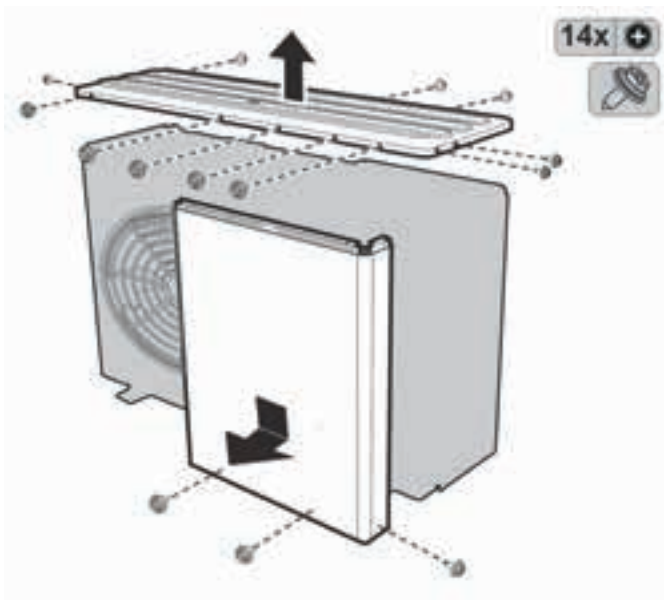
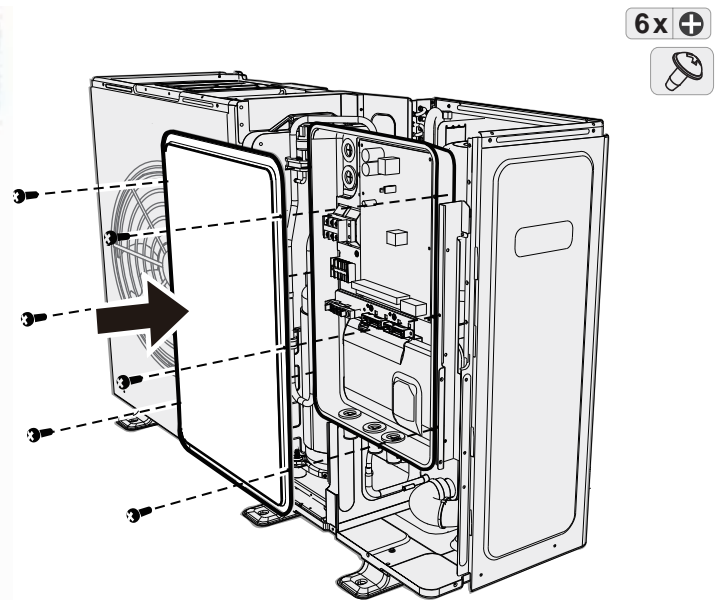

Figure 61. Heat Pump - Top and side panel installation
Figure 62. Heat Pump - Electrical panel installation
4. Remove the top and side panels by removing the screws shown in *Figure 61*. To gain access to the electrical panel, remove the 6 screws indicated in *Figure 62*. (See section 4.1.7 for thorough instructions).